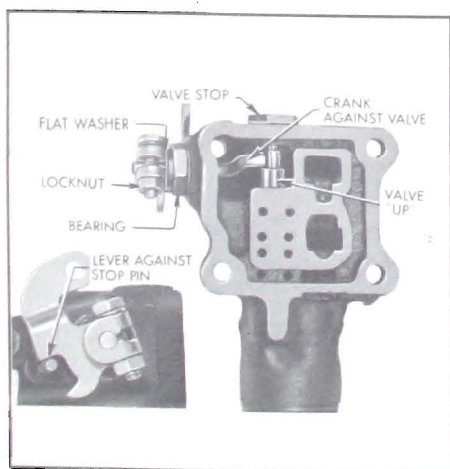

Figure 5-86—Valve Operating Lever Adjustment
12. Adjust operating lever on crank so that lever contacts its stop and the crank contacts the valve with valve in extreme upper position, then tighten the clamp bolt. See Figure 5-86.